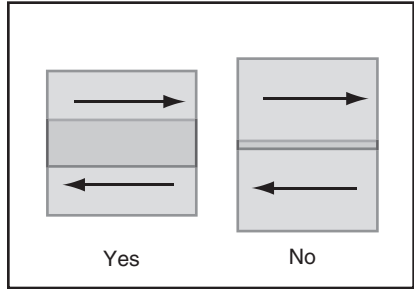

Figure 6. Overlap technique.
12. Overlap each stroke by 50%. This will ensure even coverage as shown in **Figure 6**. Less than 50% as shown in the figure to the right may lead to missed spots or streaky results.